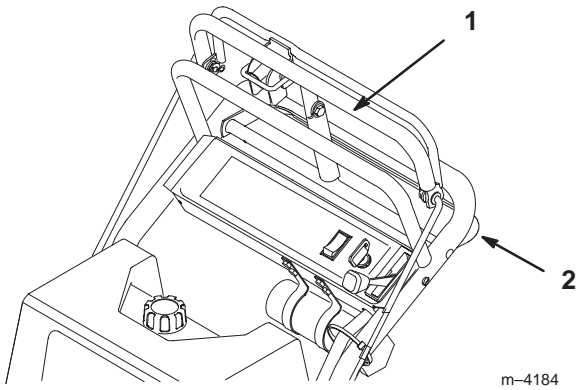

Figure 18
- Slowly press on the upper control bar to move forward (Fig. 18).
To go straight, apply equal pressure to both ends of the upper control bar (Fig. 18).
To turn, release pressure on the upper control bar side away from the direction you want to turn (Fig. 18).
3. Slowly squeeze the lower control bar and handle together to move rearward (Fig. 18).